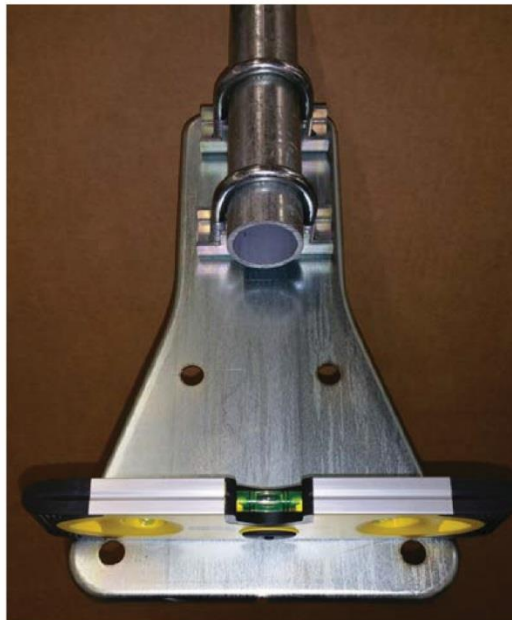

Figure 4
5. Level the Bracket prior to tightening the U-Bolts securely as shown in Figure 4. Use the Washers and nuts supplied with the U-Bolts on the backside.